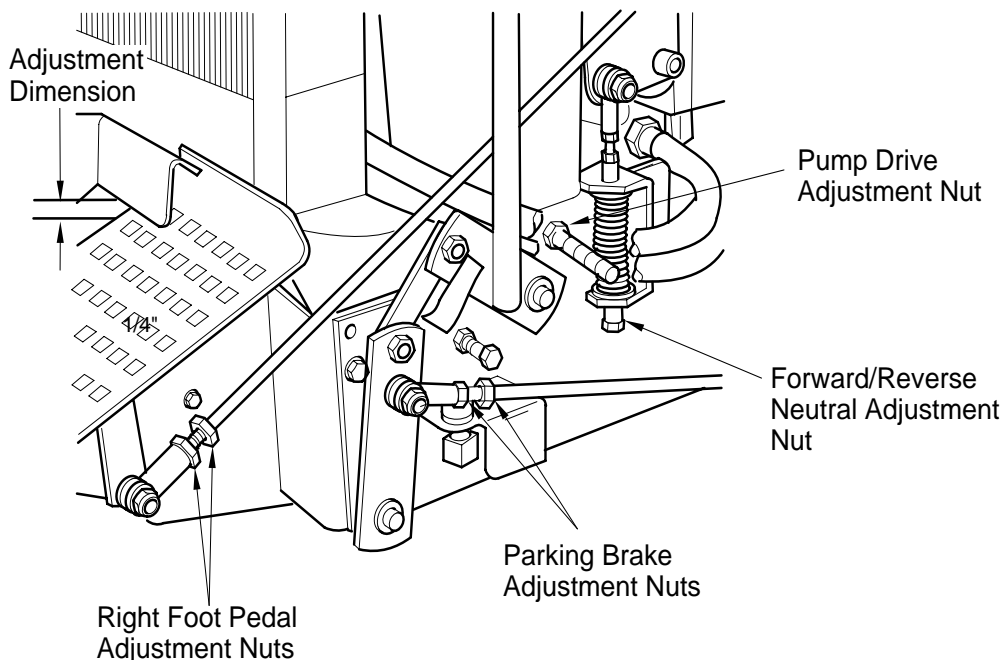

Figure 6-1 Adjustments
The parking brake linkage should be adjusted whenever the parking brake lever is placed in the “Engage” position and the parking brake will not hold the mower from moving. A minor adjustment can be made at the control lever by loosening the jam nut shown in Figure 6-1 and turning the rod in a clockwise direction to tighten the linkage. Tighten the jam nut.
4. If the drive wheels rotate in rearward travel direction, turn the adjustment bolt (Figure 6-1) clockwise until rotation stops. If the drive wheels rotate in the forward travel direction, turn the adjusting bolt counter-clockwise until rotation stops.
5. Check the adjustment of the right foot pedal for full forward speed. The bottom of the foot pedal should be 1/4 inch from the top of the foot plate (See Figure 6-1) when the pump is stroked in the full forward position.
To make an adjustment, loosen the jam nut at the pump control bellcrank (Figure 6-1). Depress the foot pedal and turn the control rod until 1/4 inch is obtained between the bottom of the foot pedal and the top of the foot plate. Tighten the jam nut.
To adjust belt tension, turn the adjusting nut (Figure 6-1) until 1/2 inch deflection in belt is obtained with 10 pounds of pressure. See Engine Drive Belts, section 7.9 for checking method.